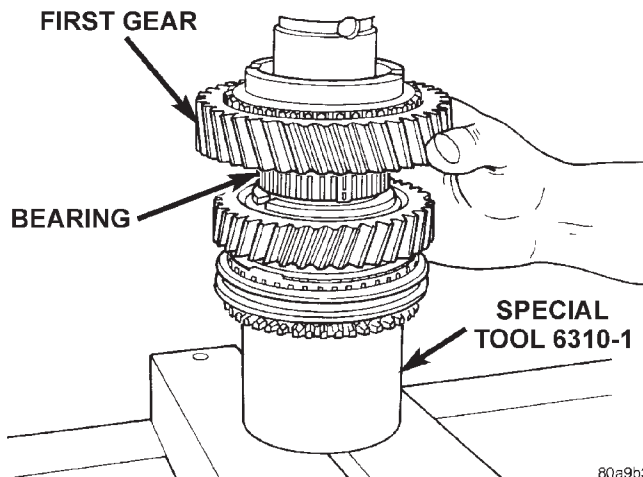

Fig. 62 First Gear Installation
(15) Install first gear on shaft and over bearing (Fig. 62). Make sure bearing synchro cone is facing up as shown.